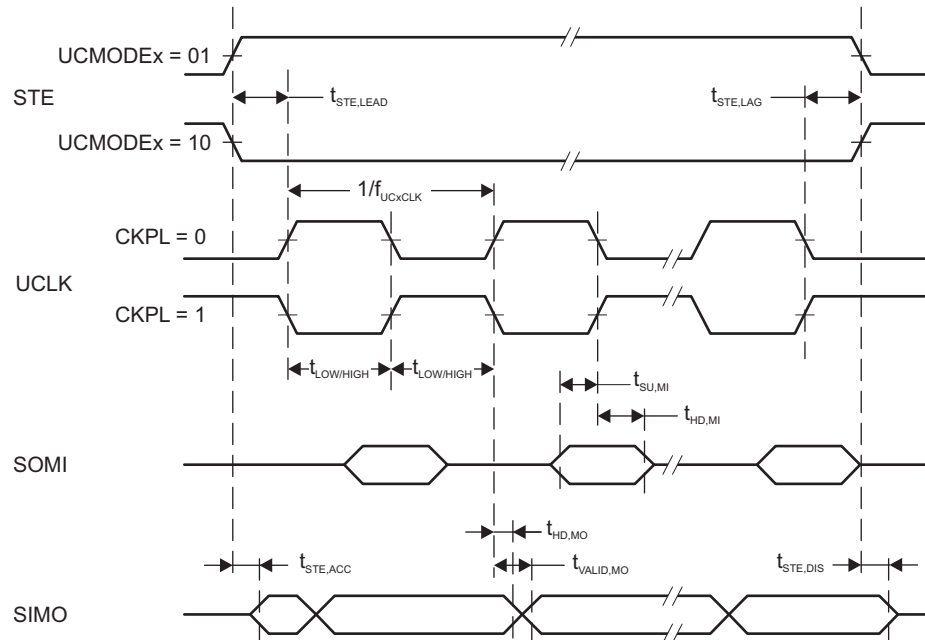
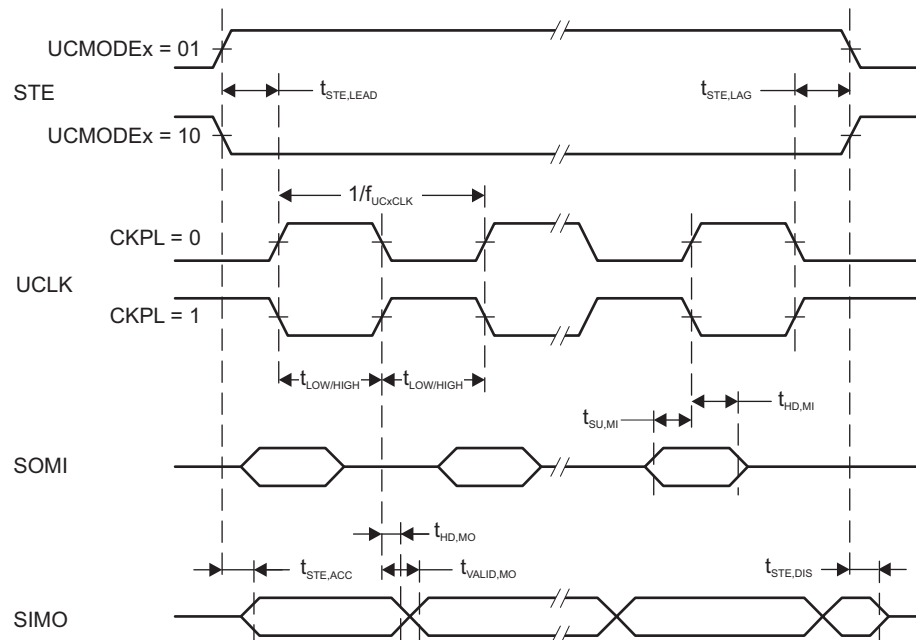

Figure 5-14. SPI Master Mode, CKPH = 0
Figure 5-15. SPI Master Mode, CKPH = 1
- (1) $f_{UCxCLK} = 1 / 2t_{LO/HI}$ with $t_{LO/HI} = \max(t_{VALID,MO}(eUSCI) + t_{SU,SI}(Slave), t_{SU,MI}(eUSCI) + t_{VALID,SO}(Slave))$. For the slave parameters $t_{SU,SI}(Slave)$ and $t_{VALID,SO}(Slave)$, see the SPI parameters of the attached slave.
- (2) Specifies the time to drive the next valid data to the SIMO output after the output changing UCLK clock edge. See the timing diagrams in Figure 5-14 and Figure 5-15.
- (3) Specifies how long data on the SIMO output is valid after the output changing UCLK clock edge. Negative values indicate that the data on the SIMO output can become invalid before the output changing clock edge observed on UCLK. See the timing diagrams in Figure 5-14 and Figure 5-15.